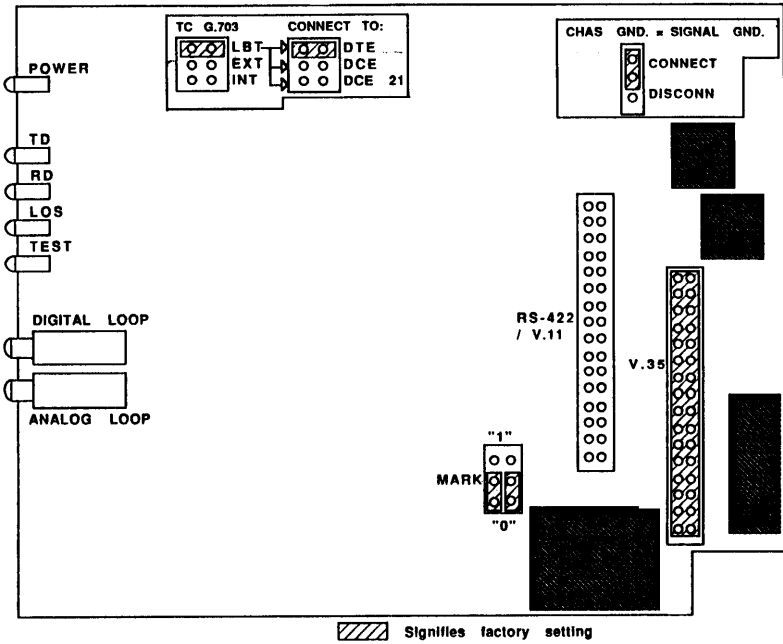

Figure 3-1. G.703 Codirectional Converter Board Layout.
Prior to installing the G.703 Codirectional Converter, determine its configuration in the data system and set its jumpers accordingly. Refer to Table 3-1. The diagrams in **Chapter 2** can help you identify the required jumper selection. Jumper locations on the printed circuit board are shown in Figure 3-1. Read the instructions in **Section 3.3.2** before making any changes.
- Identify the jumper(s) (refer to Figure 3-1).